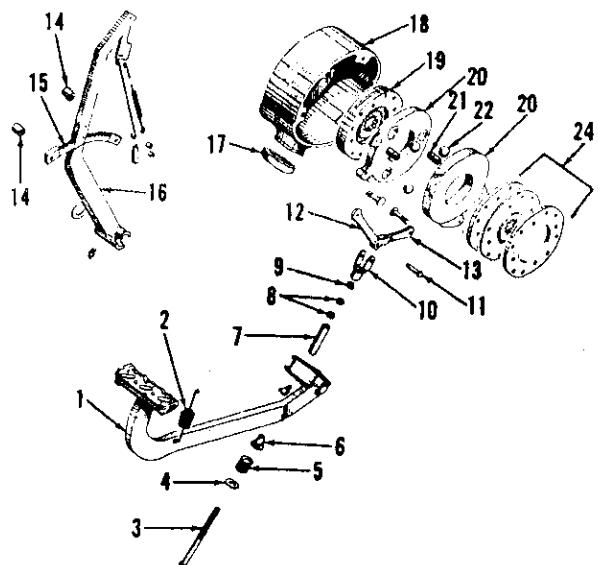

Fig. 125—Exploded view showing component parts of Series B-275 right hand disc brake assembly. Early Series B-414 are similar.
Series B-275 and early production B-414 tractors are equipped with the 5-3/8 inch brakes shown in Fig. 125. B-414 tractors having serial number 31374 and up (diesel) or 4360 and up (non-diesel) and all Series 354, 364, 384, 424, 444, 2424 and 2444 tractors are equipped with 6 1/2 inch brakes. See Fig. 127.
Fig. 124—Left brake of B-275 tractor showing brake rod and points of adjustment. Step plate has been removed for illustrative purposes. Early Series B-414 tractors are similar. Refer to Fig. 125 for legend.
181. R&R AND OVERHAUL. To remove right brake, proceed as follows: Remove differential lock thrust plate and pedal. On Series B-275 and early B-414 tractors, loosen jam nut (9—Fig. 125) and unscrew brake operating rod from yoke. On Series 354, 364, 384, 424, 444, 2424, 2444 and late B-414 tractors equipped with 6½-inch brakes, disconnect brake pedal return springs and remove the brake operating rod pin. Then, on all models, unbolt brake housing and remove housing, outer brake disc, actuating assembly and inner brake disc.
Disassembly of brakes is obvious upon examination of the units and reference to Figs. 125 and 127. Wash all parts except the linings in solvent. Inspect all parts and renew defective or worn parts as necessary.
On Series B-275 and early B-414 tractors, if brake operating rod is disassembled, reset the spring preload by turning down first jam nut (8—Fig. 125) until spring (5) is compressed solid, then back off nut three turns. Install second jam nut (8) and tighten against first to hold this setting.